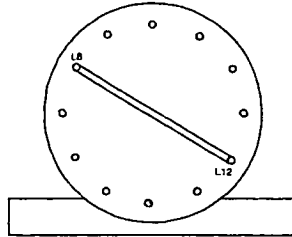

Figure 5 - Flux probe in position L8 - L12, seen from patient support end
8. Position the linear flux probe (do not use the quadrature flux probe) in position L8 - L12 (see Figure 5). The flux probe must be positioned against the front ring of the head coil. The flux probe holder must be used without the 360° rotation knob.